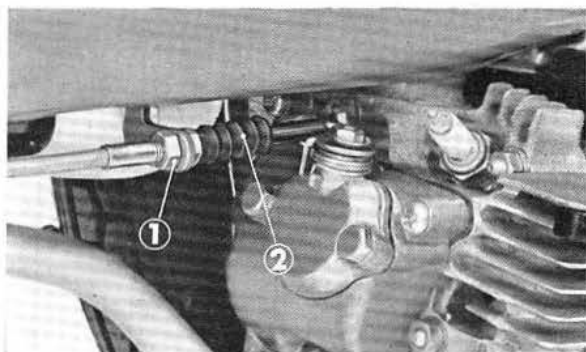

Fig. 2-1 ① Nut ② Decompression cable
3. Disconnect the decompression cable at the engine. (Fig. 2-1)